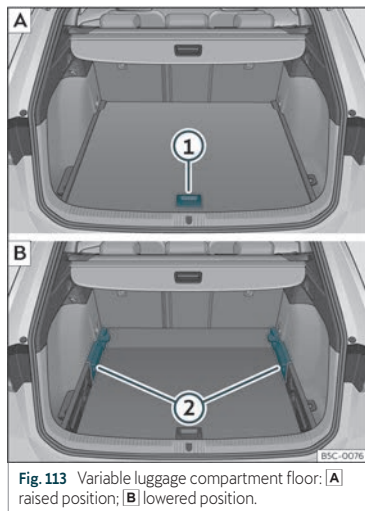

Fig. 113 Variable luggage compartment floor: **A** raised position; **B** lowered position.
- To move from the low position to the high position, lift the floor using the handle »» Fig. 113 ①, and pull it back until the front of the floor has fully passed the supports »» Fig. 113 ②.
- Move the floor forward over the supports as far as the rear seat backrest and then lower the floor with the handle ①.
- To move from the high position to the low position, lift the floor using the handle »» Fig. 113 ①, and pull it back until the front of the floor has fully passed the supports »» Fig. 113 ②.
- Now let the front part fall to the floor and slide the floor forwards as far as the rear seat backrest; lower the floor at the same time with the handle ①.
- Lift the variable floor in the high position using handle »» Fig. 113 ①, pull it up and push it towards the backrest of the rear seats until it folds along the hinge line and the movable part of the floor is resting on itself.